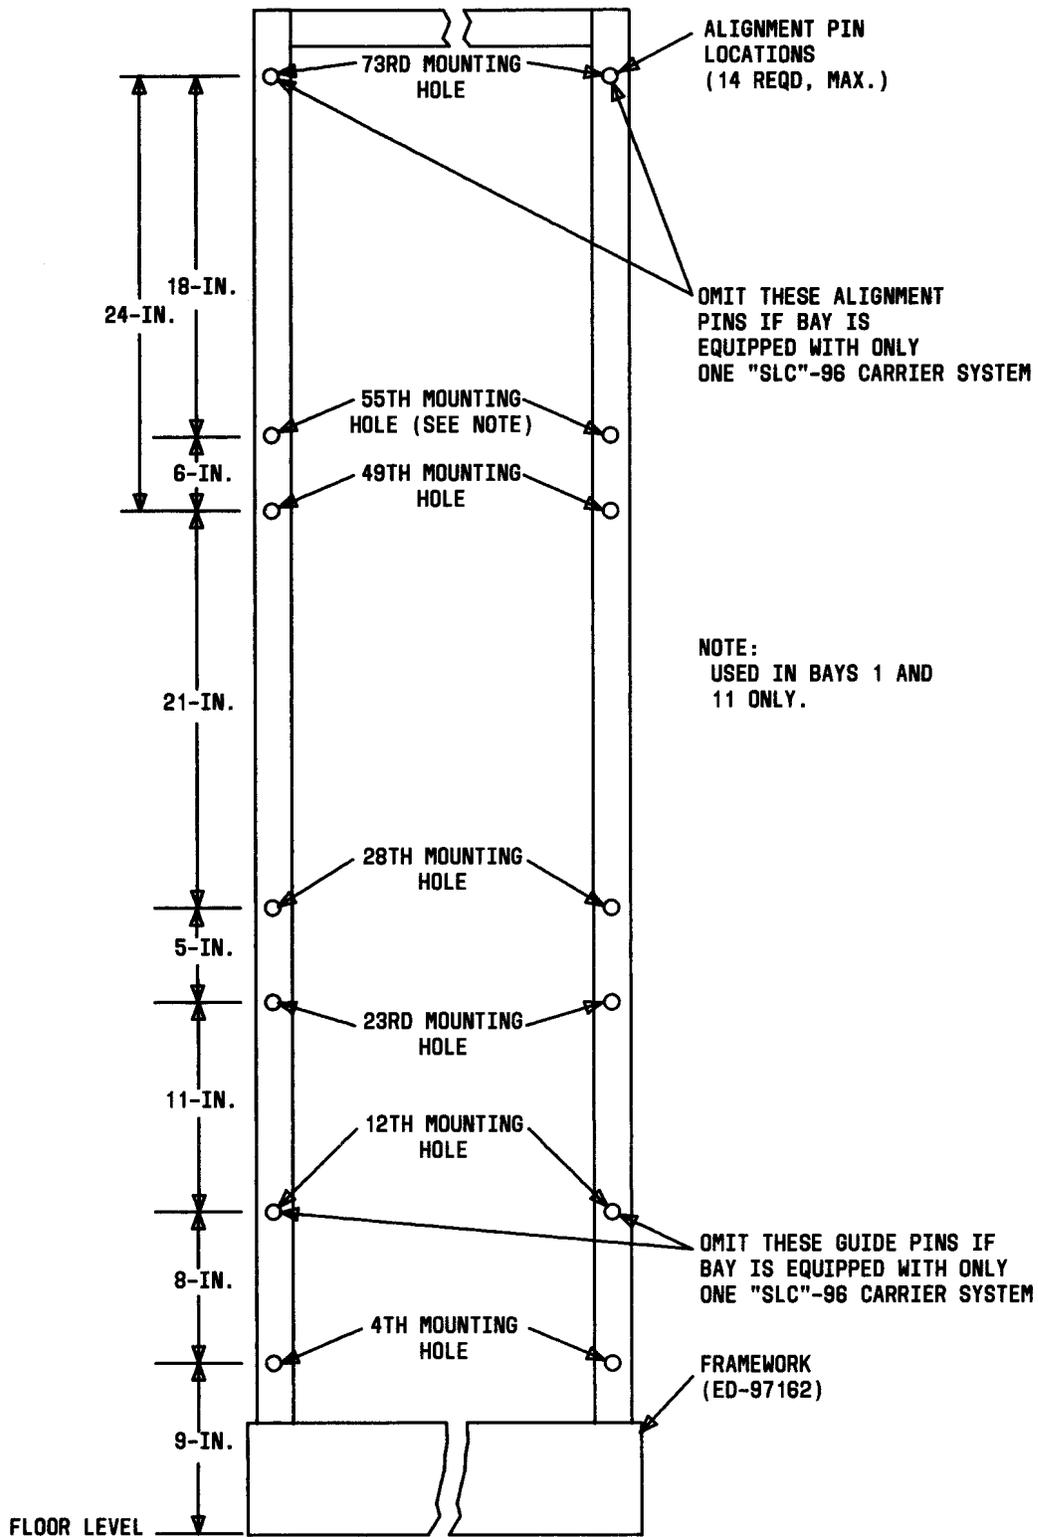

Fig. 1—Alignment Pin Locations For Two Metallic or Fiber SLC-96 Carrier Systems
- 3.01** ♦Install the alignment pins, furnished with each shelf, on both frame uprights. The location of the alignment pins for the various configurations are shown in Fig. 1, 2, and 3.♦